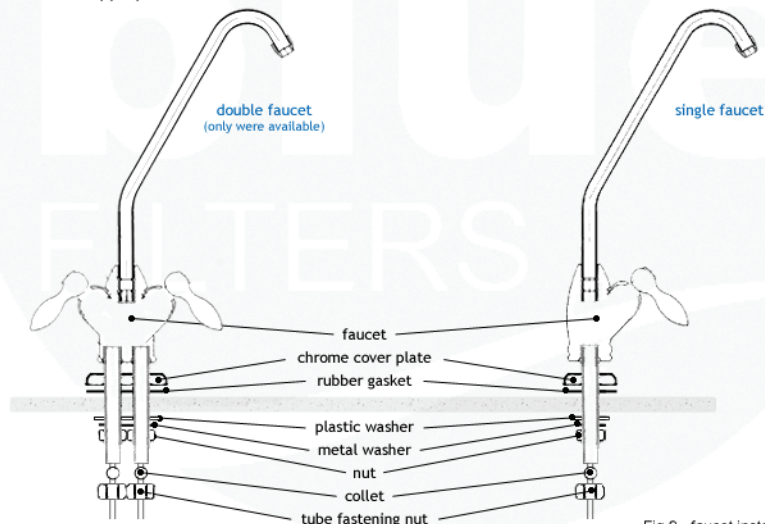

Fig 9 - faucet installation elements
6. Pass the chrome cover plate and rubber washer according to the Fig.9 through the threaded mounting tube at the base of the faucet